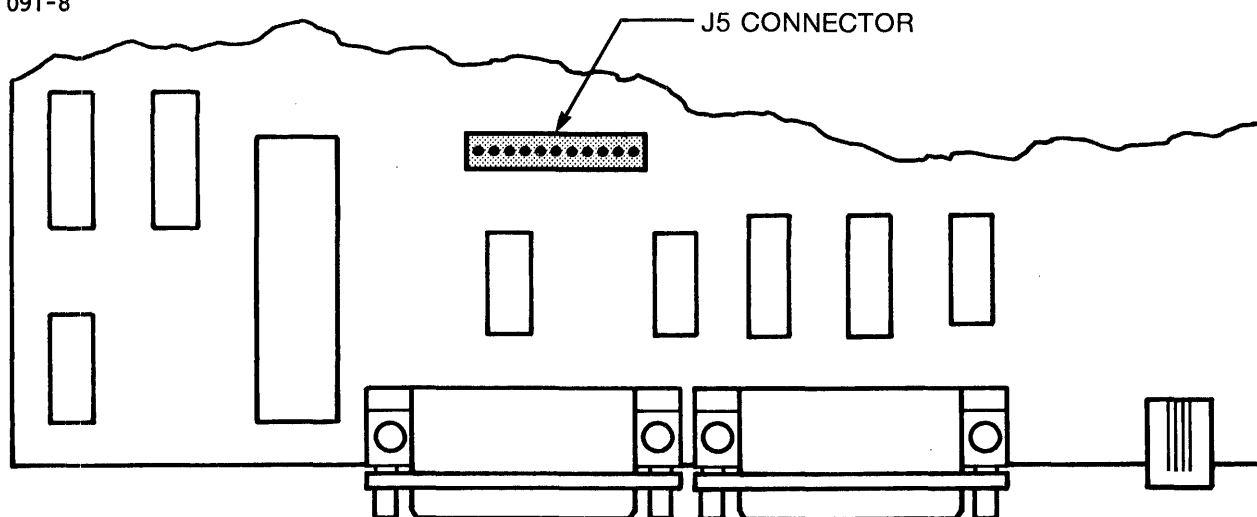

Figure 2-4 Current Loop Adapter Installation (6312 only)
The current loop adapter is contained on a 2.0in by 2.5in printed circuit (PC) board, which is installed into the female connector J5, located on the logic board as shown in Figure 2-4. Section 2.3.1 contains information on removal of the monitor assembly cover.